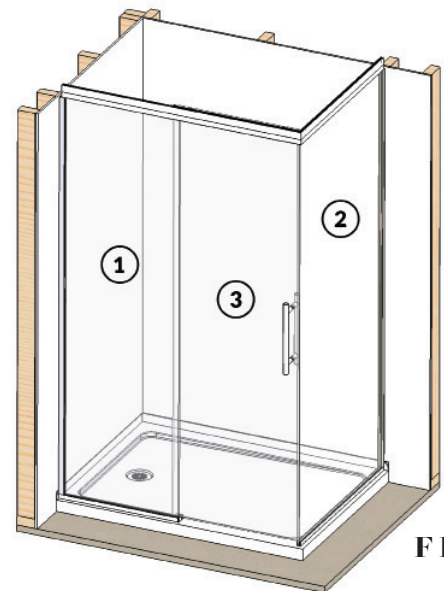

FIG 7.
- When panels are correctly aligned, remove Panel 1 (**FIG 7**), and run a thick continuous line of silicone down the inside of the wall channel (**FIG 8**) and apply liberally in the wall to floor channel join and along the floor channel to the length of the glass panel.